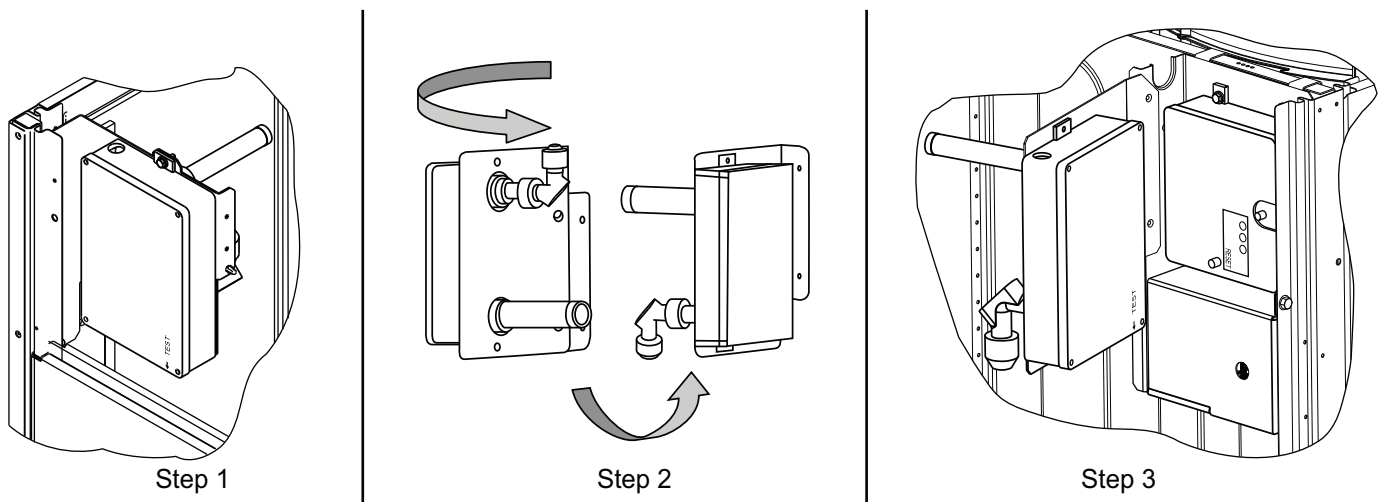

Fig. 68 — Completing Installation of Return Air Smoke Sensor
1. Unscrew the 2 screws holding the return-air smoke detector assembly. See Fig. 68, Step 1. Save the screws.
2. Turn the assembly 90 degrees and then rotate end to end. Make sure that the elbow fitting is pointing down. See Fig. 68, Step 2.
3. Screw the sensor and detector plate into its operating position using screws from Step 1. See Fig. 68, Step 3.